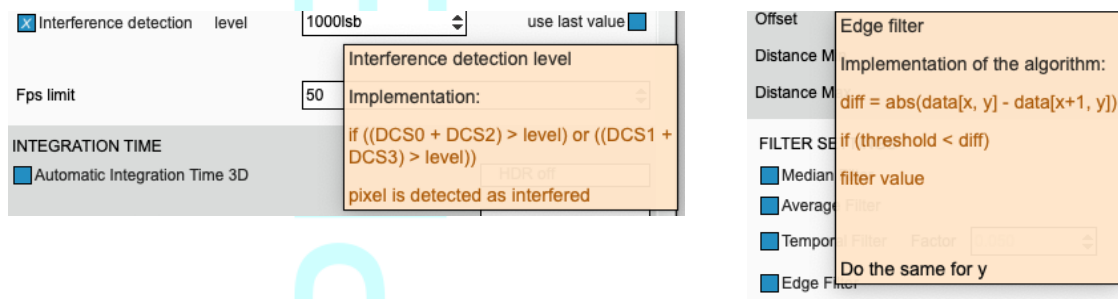

Figure 13: Tooltip examples
- Tooltips are available by moving the cursor either to the corresponding text (refer to Figure 13).